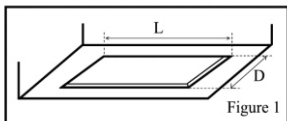

Figure 1
1. Cut a hole "D" by "L" in the bottom of the cabinet, using the dimensions shown (see fig. 1)